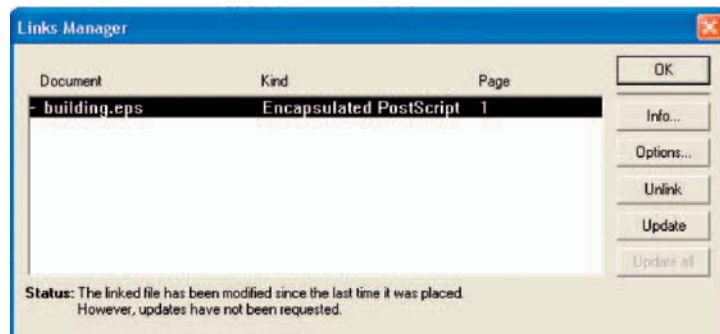

Fig. 10.5 The Links Manager dialog of PageMaker
Second example – EPS file (Fig. 10.5)
- Go back into **PageMaker** and *click* **Links Manager...** in the **File** drop-down menu. The **Links Manager** dialog appears (Fig. 10.5).